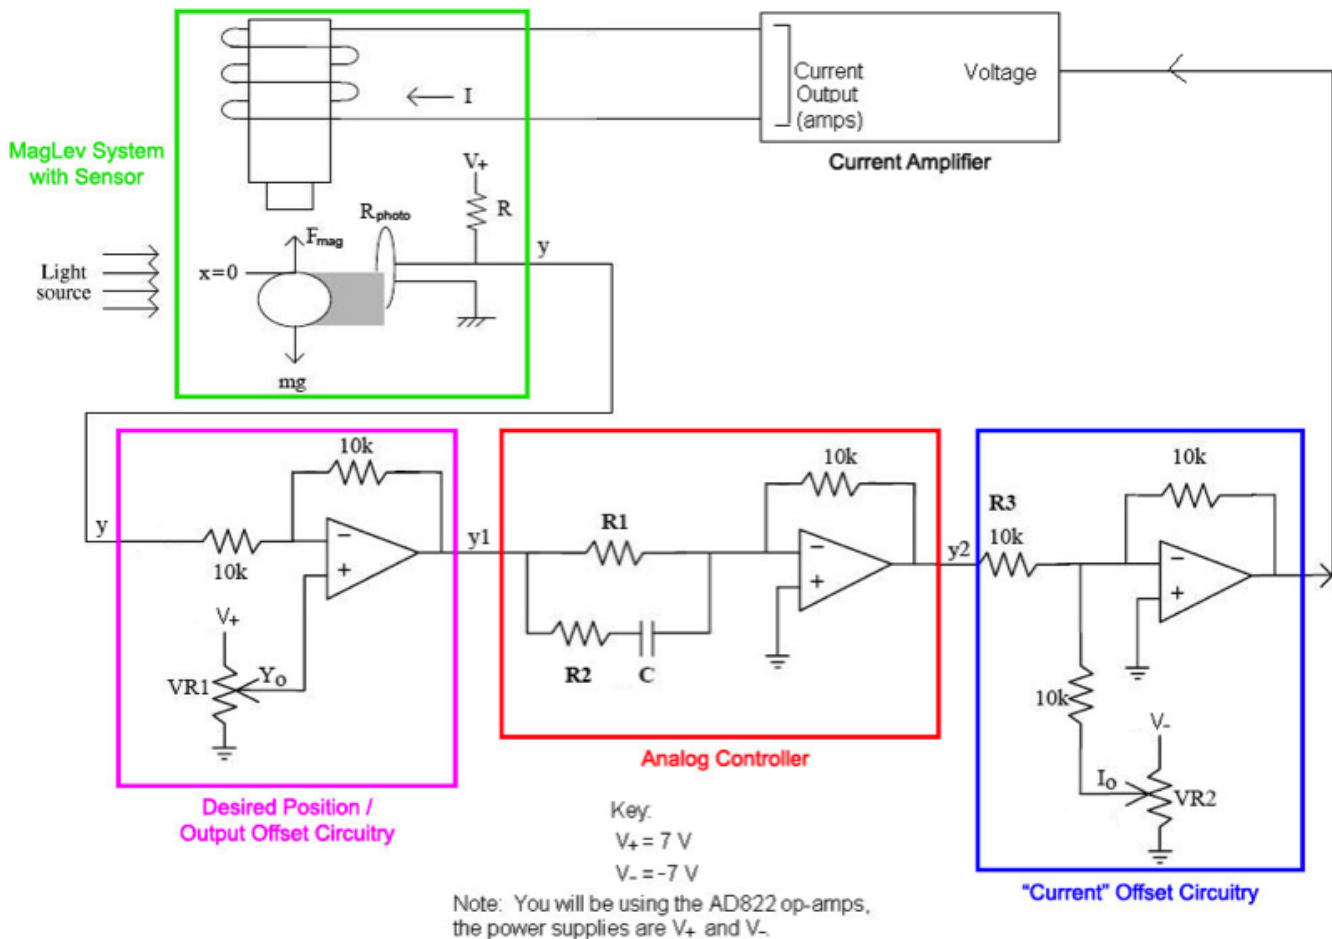
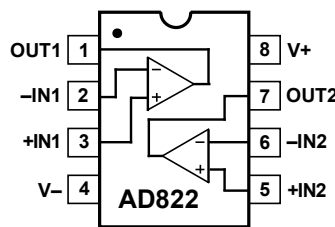

Figure 3: Block diagram of the magnetic levitation setup with circuit level details.
Figure 4: Connection Diagram AD822 OpAmp.
Figure 3 on the next page of these instructions shows a block diagram of the magnetic levitation setup with circuit level details. You will be picking values for  $R_1$ ,  $R_2$ , and  $C$  to stabilize the steel ball around an equilibrium point. The potentiometers will be used to calibrate the photoresistor and the current offset to the equilibrium point.
Let  $y_{ref} := Y_0$  in the left box in Figure 3. This is the reference voltage that you will adjust using a potentiometer. Derive the following relationship between the signal  $y_1$ , the voltage  $y$  from the photoresistor and the reference voltage  $y_{ref}$ :
Derive the following transfer function of the analog controller in the red box in Figure 3:
In the current offset circuit in the blue box in Figure 3, let  $y_i$  be the voltage drop across the potentiometer and let  $V_{out}$  be the output of the op amp. Observe that  $y_i$  will be negative. Derive the following relationship:
You will not have to implement the complete circuit given in Figure 3 in this lab, that will happen next week. However, you will be using the current amplifier. The GSI will help you with setting things up. Do not turn on your circuit before checking off with the GSI! If you want to know more about the current amplified, you can find a data sheet under <http://www.copleycontrols.com/motion/pdf/bantam.pdf>.
- The first offset circuits in Figure 3 is to scale  $y$  down to  $y_1$  such that  $y_1$  moves around 0.
2. Measure the range of variation of the resistance of the photo-resistor as the balls shadow covers from none to the entire resistor surface. Using this data, determine a suitable resistor value  $R$  to use in series with the photo resistor (see green system box in Figure 3), given that the supply voltage is  $V_+ = 7V$  and the fact that the photo resistor must not exceed a power dissipation of 250mW. *Hint:* You can use the wooden piece to keep the ball from rolling around.
For the second part of this lab, you will build an op amp circuit so that you can get used to debug op amp circuits, which you will build in the next week. For this lab, you need to build "Desired Position/Output Offset Circuitry" in Figure 3. Since we do not connect the photoresistor to the circuit this week, for the voltage  $y$ , please use the power supply.
- Build "Desired Position/Output Offset Circuitry" in Figure 3 (For the op amp, please look at Figure 4)
- Using an equation (3) from Prelab, calculate the voltage  $y_1$